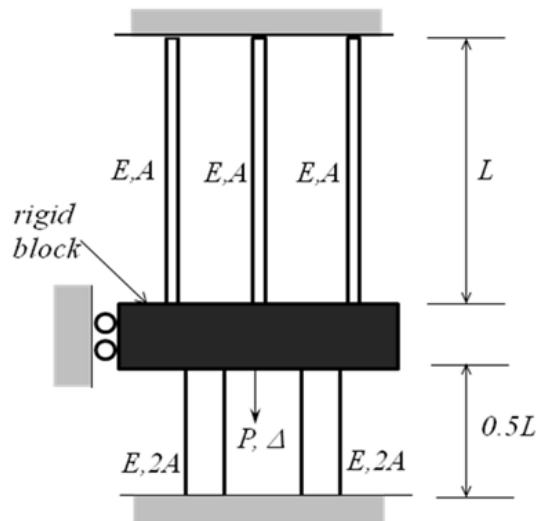

Figure 3/Rajah 3
- (b). Derive the global stiffness equation for the assembly of bar element as shown in **Figure 3** using finite element method. A load P acts on the rigid block. The resulting vertical displacement of the rigid block is Δ . Evaluate the expression for Δ if the middle top bar is removed.